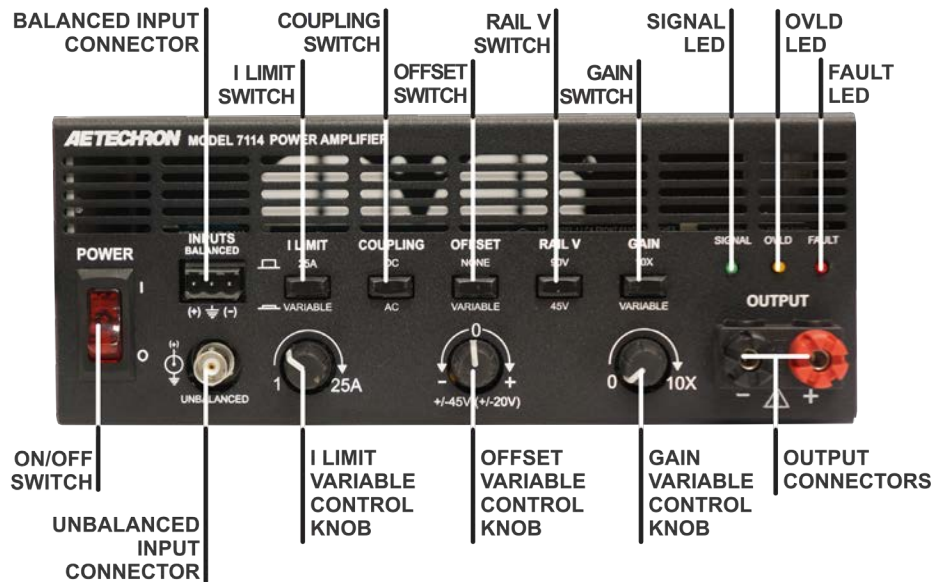

Figure 4.1 – Front Panel Controls, Indicators and Connectors (7114 model shown)
This section provides an overview of Front-Panel controls found on the 7100-series amplifier. See **Figure 4.1** for control locations.
The lighted rocker **POWER** switch controls the AC mains power to the unit. Switch to the ON position (I) to turn the unit on. The switch's internal LED will light. Switch to the OFF position (O) to turn the unit off. See **Figure 4.1**.
Three status indicators are located on the front panel. See **Figure 4.1** for component locations.
This section provides an overview of the connectors found on the 7100-series amplifier. Please refer to **Figures 4.1, 4.2 and 4.3** for visual locations.